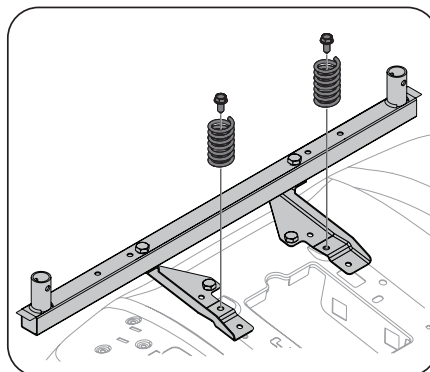

Figure 3-3
5. Reinstall the seat springs and hardware that were removed earlier in the procedure as shown in Figure 3-3.